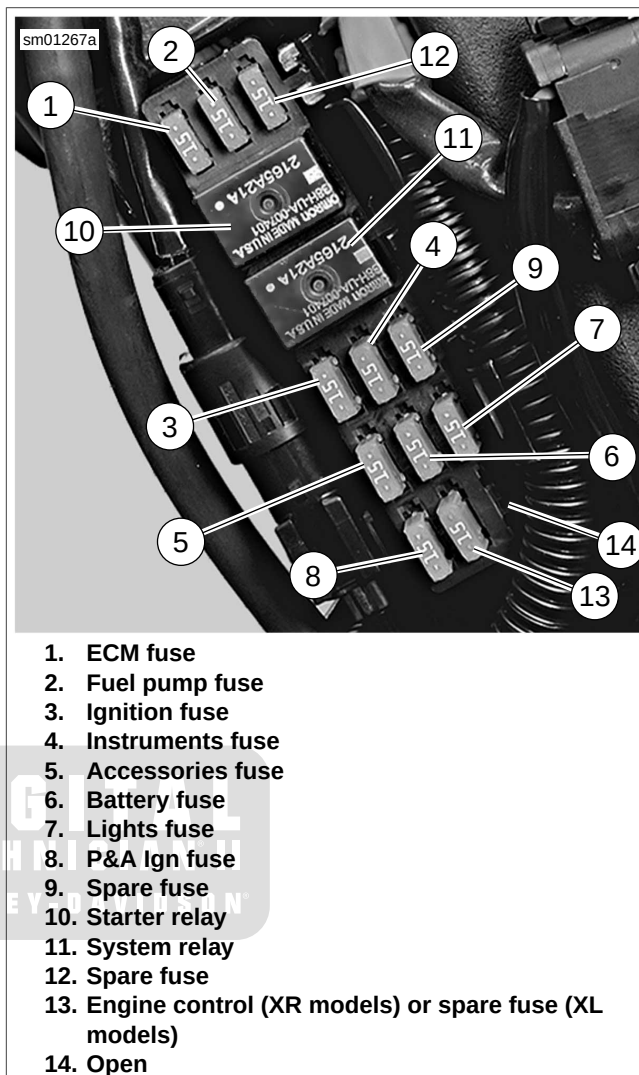

Figure 6-15. Relay/Fuse Blocks (Typical)
See Figure 6-15. The electrical system relay/fuse block is located in front of the battery under the left side cover. The relays and fuses are mounted in the relay/fuse block. All fuses except the P&A fuse are rated at 15 amperes.
2. See Figure 6-15. Pull suspect fuse (1-9) from slots in relay/fuse block and inspect for blown condition or other damage.
2. See Figure 6-15. To unplug old relay (10 or 11), grasp body of relay and with a gentle rocking motion, pull straight out from relay/fuse block.